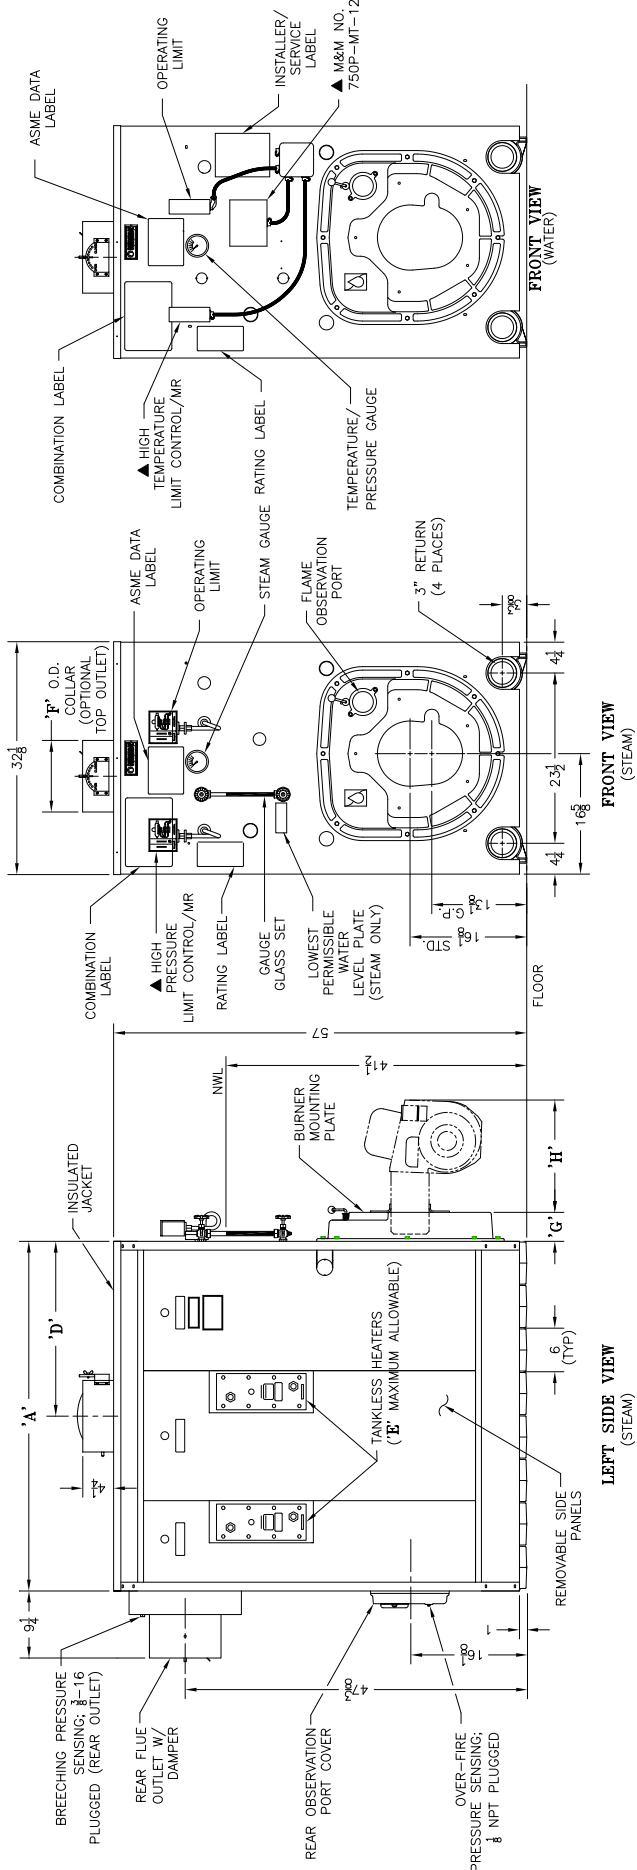
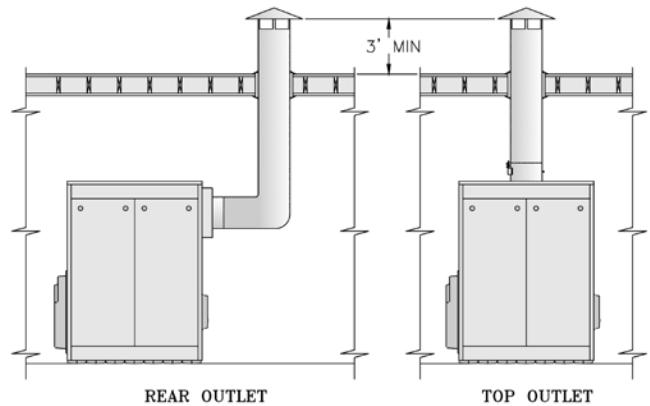
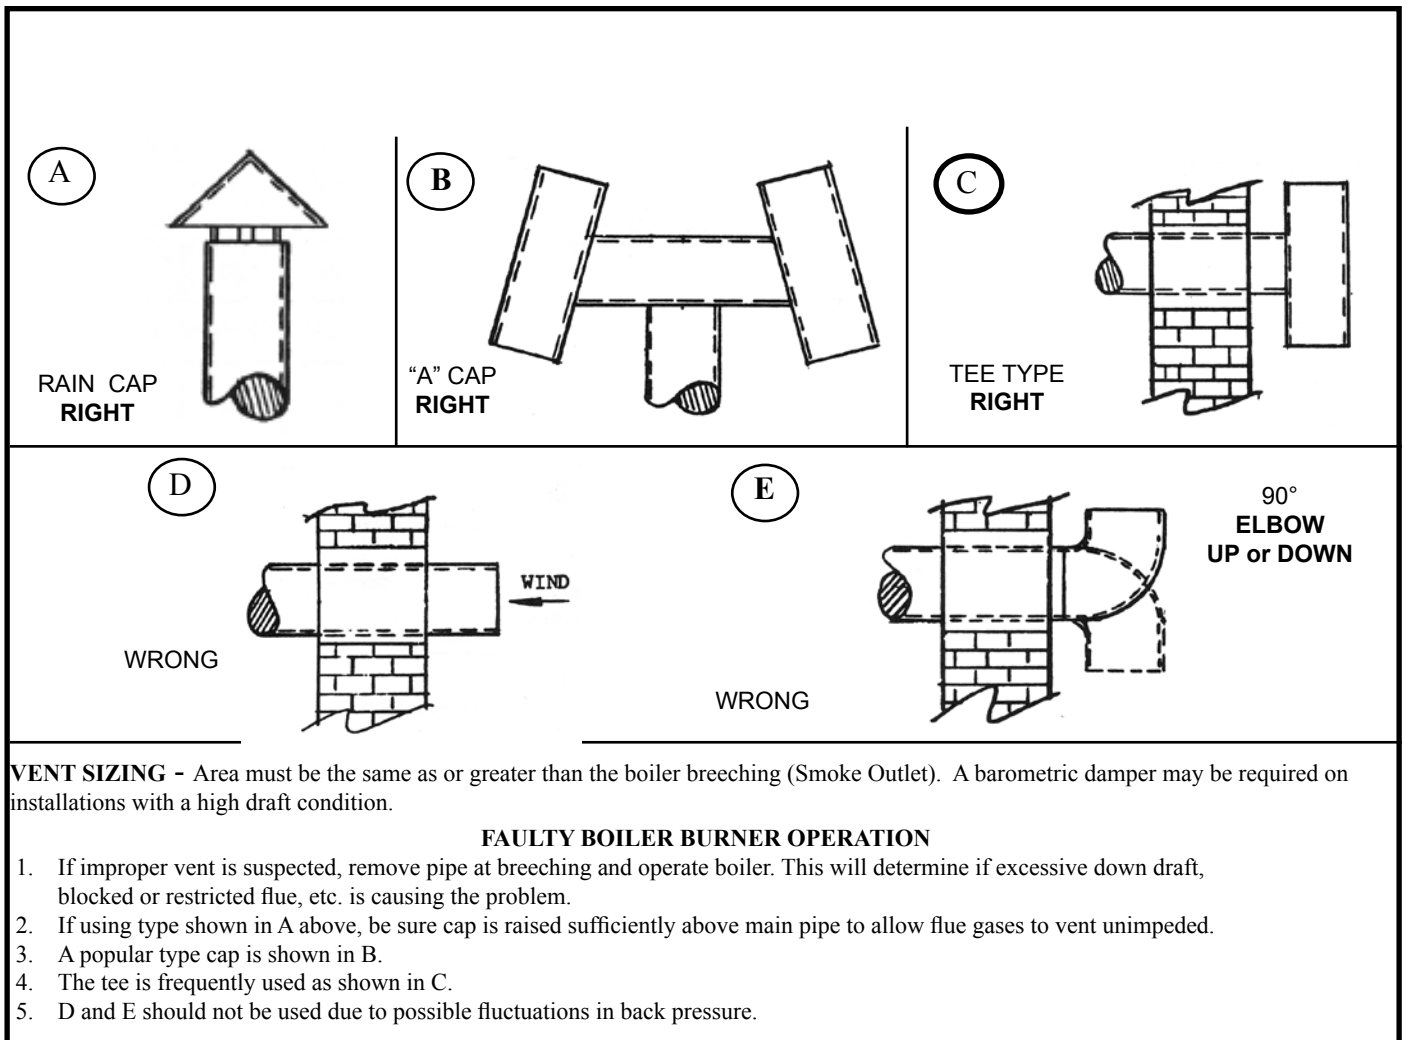

Figure 1: Dimensional Information
Figure 3a: Typical Arrangement for Stub Vent
Figure 3b: Vents — Faults & Suggestions
(2) I=B=R net ratings shown are based on piping and pick-up allowances which vary from 1.333 to 1.289 for steam and 1.15 for water. Consult manufacturer for installations having unusual piping and pick-up requirements, such as intermittent system operation, extensive piping systems, etc. The I=B=R burner capacity in GPH is based on oil having a heat value of 140,000 BTU per gallon.
(3) Firebox volume does not include added volume of 8" extended burner mounting plate (BMP). If 8" BMP is specified (refer to Figure 1), add 0.7 cu. ft. to volume listed above.
(4) Boiler ratings are based on 12.5% CO₂ (oil) and 9.7% CO₂ (natural gas), + .10" (inches) water column pressure at boiler flue outlet. Ratings shown above apply at altitudes up to 1000 feet on oil and 2000 feet on gas.
- Locate the unit in the boiler room so as to provide ease of venting and adequate clearance for maintenance, serviceability, and installation of piping. Refer to Figure 1 for boiler dimensional data.
The V9A Series boiler is designed for forced draft firing and may be used with a conventional natural draft stack (15' minimum height) or a stub vent, sometimes called a diesel stack (see Figure 3a). See Table I for the proper vent outlet size. For low silhouette vent terminations, see Figure 3b. Draft controls are not normally required, although they may be used on installations where a natural draft stack is used or on multiple boiler installations with a common stack. The boiler is provided with a breeching damper, which should be adjusted to maintain a positive pressure of 0.1" W.C. in the vent connector box during burner high fire operation (see breeching pressure sensing port in Figure 1).
If the venting system is designed for positive or forced draft venting, the boiler, vent connector and stack will operate under positive pressure. Gas tight vent systems designed for pressure systems must be used to prevent flue by-product leakage. The vent height is usually limited to prevent negative draft, typically three (3) feet above the roof line (see Figure 3a). The damper shall be adjusted to maintain a positive pressure of 0.1" W.C. in the vent connector box during burner high fire operation (see breeching pressure sensing port in Figure 1).